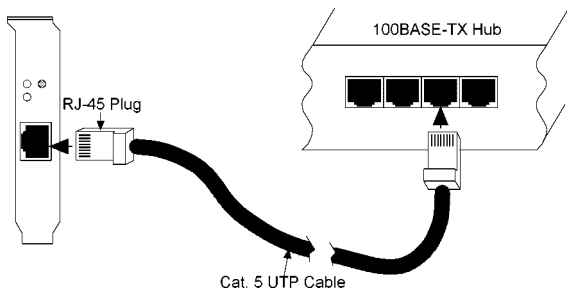

Figure 2-4 Connecting 100BASE-TX Cable
2. Align the RJ-45 plug on the end of the UTP cable with the notch on the adapter's connector and insert it into the adapter connector as shown in Figure 2-4.